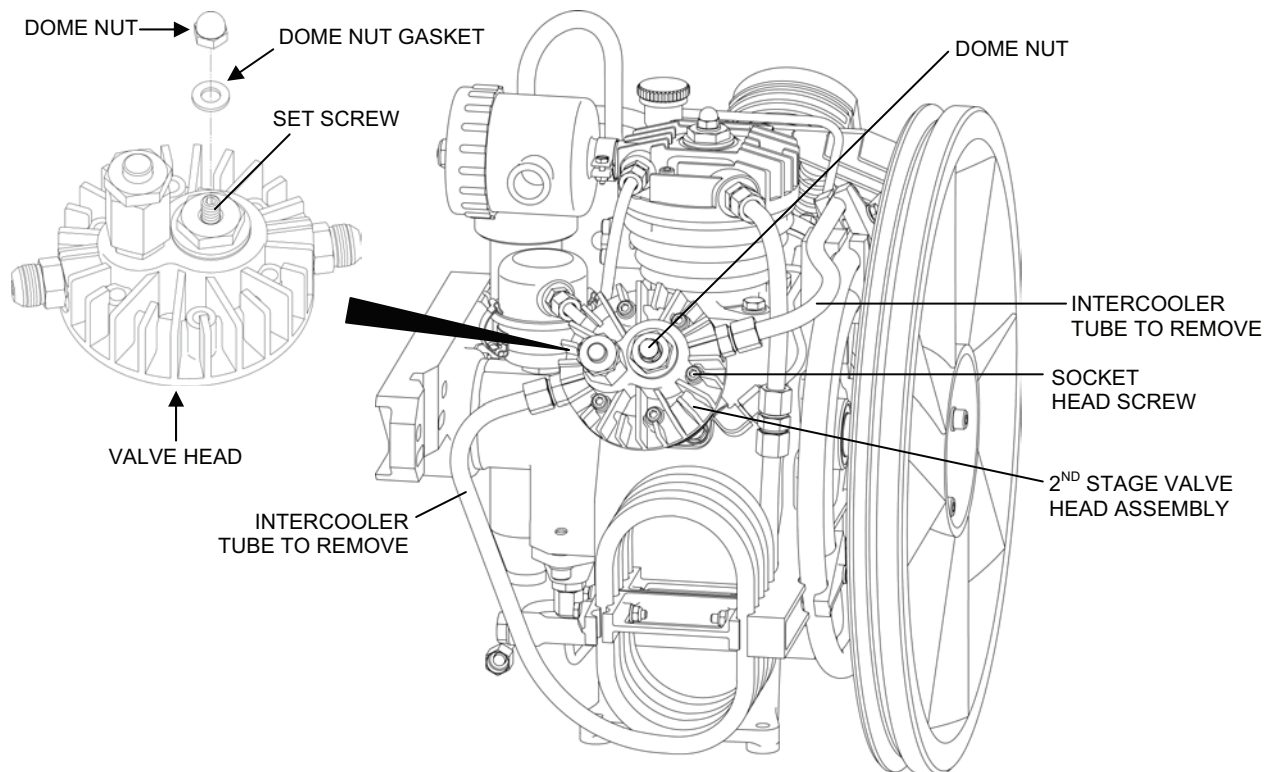

Figure 9. Second Stage Valve Head Assembly Replacement.
Replace the second stage valve head assembly as follows (see Figure 9).
4. Install the new second stage valve head assembly as follows (see Figure 9):